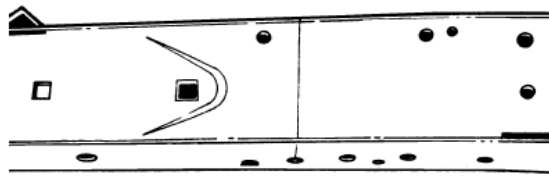

Figure 4
7. Remember that rubber snubber hole from Step 2? Use the center of that hole to scribe a line around the frame rails. (See **Figure 4**). This is the axle centerline. Note that on some models, especially '37 to '40 Fords, that the axle was actually back from the snubbers up to 1". Check that your wheelbase (the scribed axle centerline) is 112 inches. If not, move the scribed line accordingly. Many times, the snubbers were too far forward. As a final check, just to be safe, you could temporarily place a fender on the frame and stand a tire & wheel in place in the fender, centering the wheel in the fender opening. Slide a bar or broom handle through the wheel center hole. It should fall on your correct axle centerline. Remember the basic rule – measure twice, weld once.